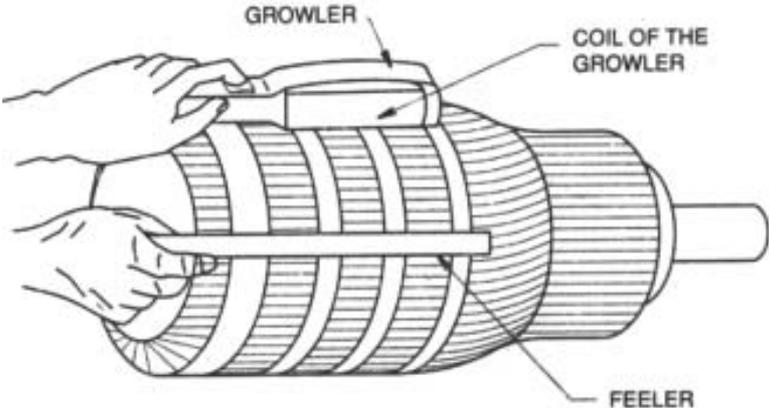

Fig. 6.17 Internal Growler
**Internal growler :** An internal growler, such as the one used for stators, may be used for armatures as well. These are made with or without built-in feelers. The growler with a built-in feeler has a flexible blade attached to the growler so that a hacksaw blade or similar instrument is not necessary. This type is especially desirable in smaller stators that have no room for a separate feeler. Fig. 6.17 shows an internal growler with a separate feeler, used for large armatures.